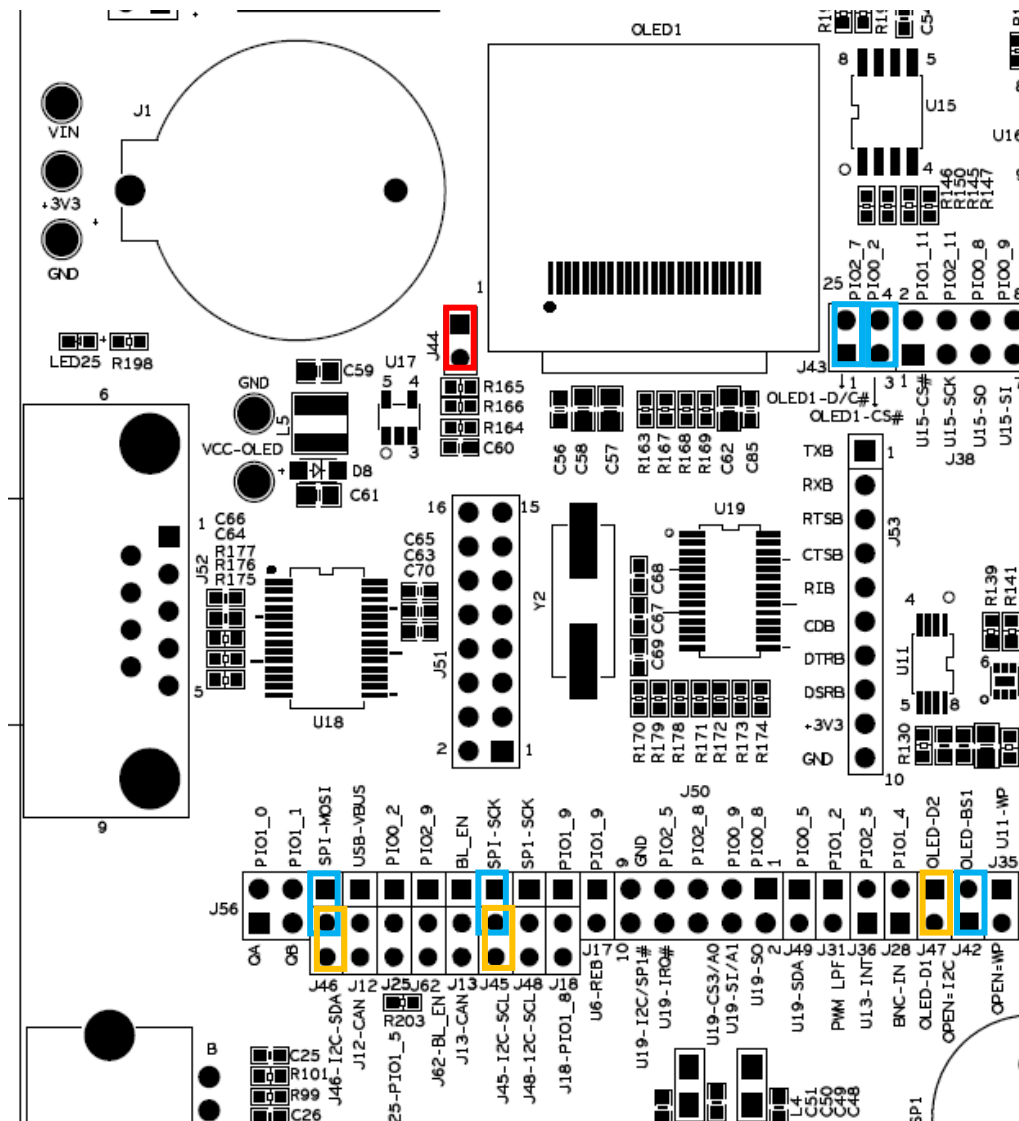

Figure 39 – Jumper Setting: OLED in SPI/I2C Mode
The OLED display, OLED1 (schematic page 10), can be connected either to the SPI-bus or the I2C-bus. Always insert a jumper in J44 (schematic page 10) in order to allow GPIO_29 to control the OLED-voltage (about 11V). See Figure 39 for details.
- For SPI interface (default), insert jumpers in J42, J43, J45 pin1-2 and J46 pin 1-2 (schematic page 10), as illustrated in Figure 39. Note that SPI mode is illustrated by blue jumpers.
- For I2C interface, insert jumpers in J45 pin 2-3, J46 pin 2-3 and J47 (schematic page 10), as illustrated in Figure 39. Note that I2C mode is illustrated by yellow jumpers.